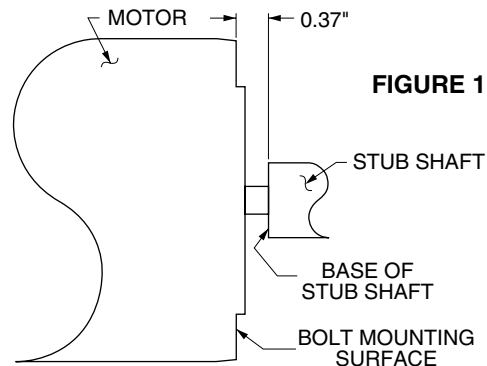

FIGURE 1
1. Liberally apply Loctite RC/680 retaining compound to the motor shaft and slide the stub shaft on, positioning the base of the stub shaft 0.37" from the bolt mounting surface of motor and two of the four set screw holes over the keyway in the motor shaft. For clarification refer to figure 1 below. Loctite aids in preventing fretting and subsequent shaft failure. Wipe off excess Loctite. Apply Loctite to the two dog point (flat point) set screws, position in the set screw holes aligned with the keyway of the motor shaft and torque to 55-60 in. – lbs. Apply Loctite to the two cap point screws and torque to 85 - 90 in. – lbs.